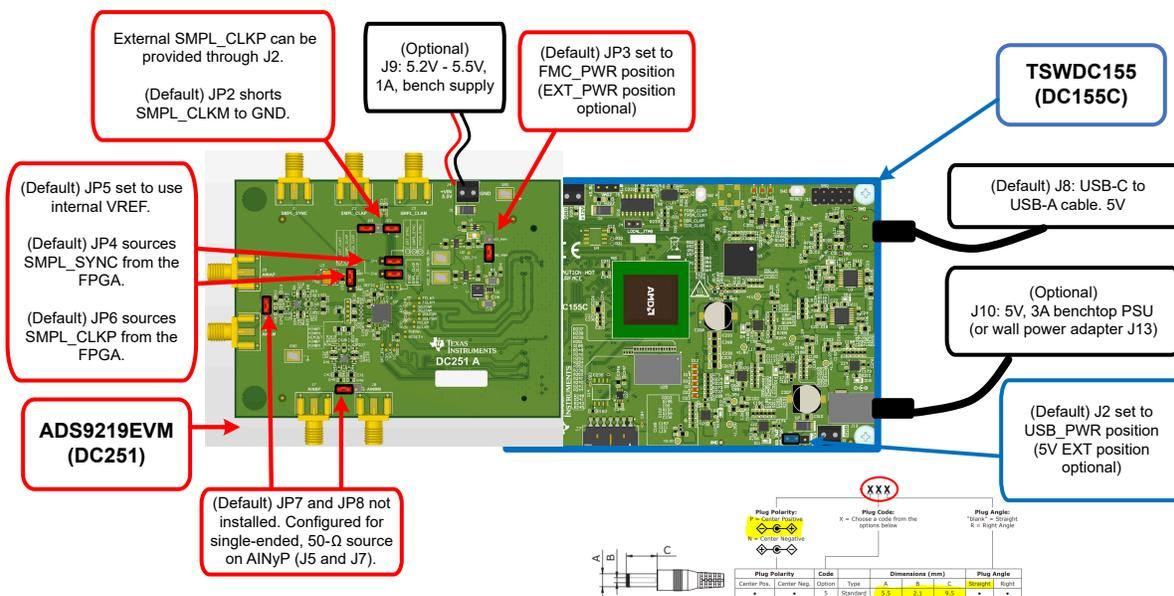

Figure 2-1. Connecting the Hardware
1. Review the default jumper settings and power guidelines in Figure 2-1 below.